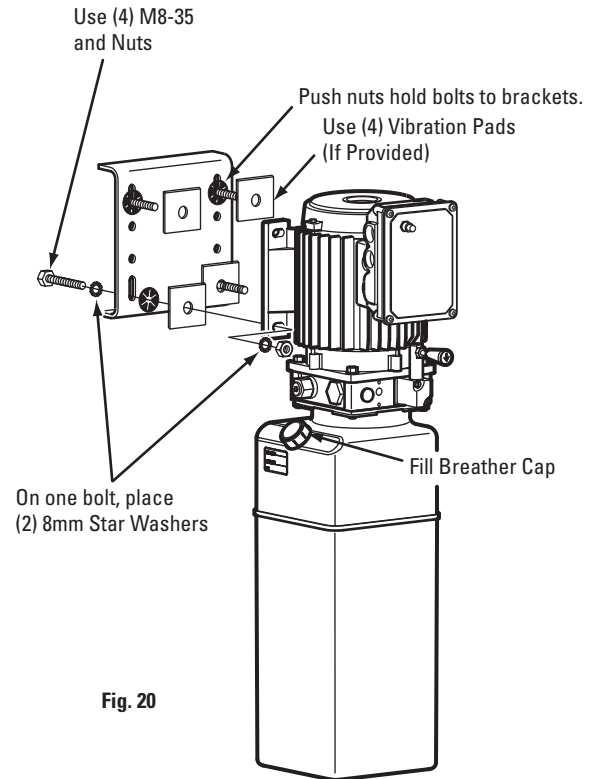
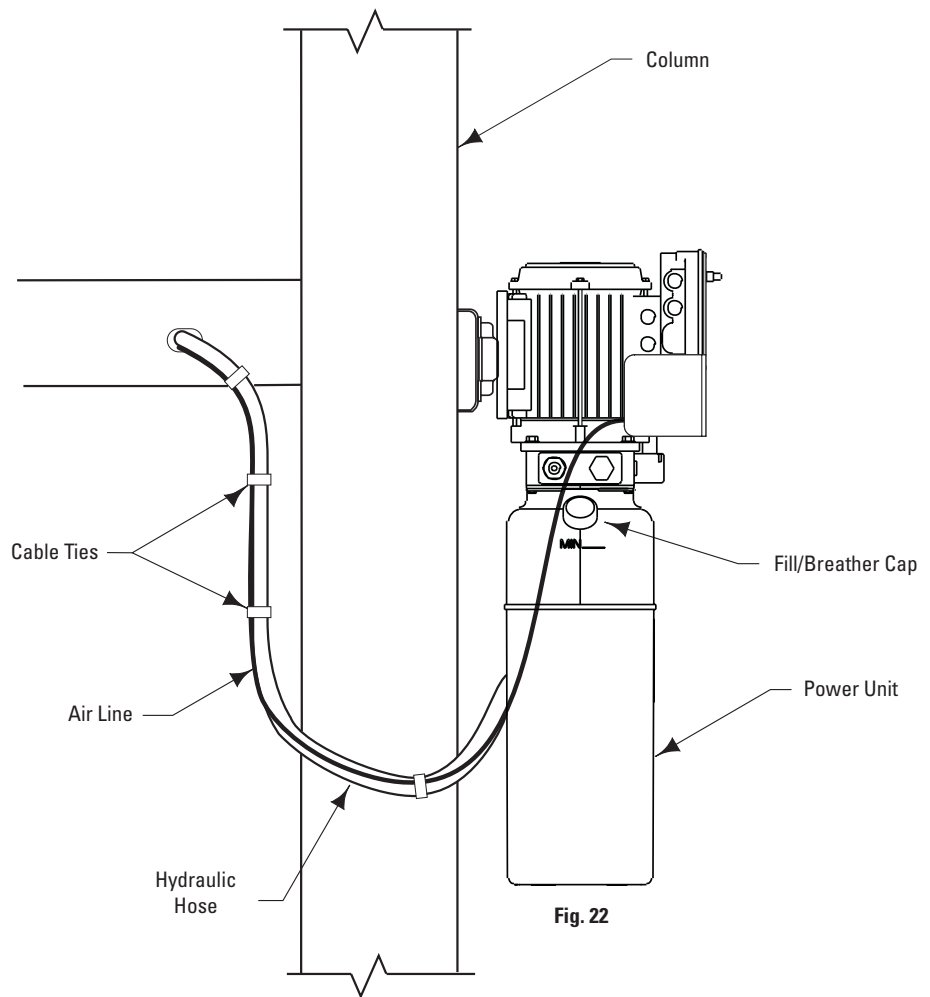

Fig. 20
Fig. 22
- A. Put (4) M8-35 hex bolts through holes in column bracket using push nuts to hold in place.
- B. Mount power unit, with motor up, to column bracket and install lock washers and nuts, Fig. 20. Run hydraulic hose from runway through slot in side of runway to power unit output port, Fig. 22. DO NOT use Teflon tape on hydraulic hose connections.
- D. Run hydraulic hose from runway through slot in side of runway to elbow, Fig. 22. DO NOT use Teflon tape on hydraulic hose connections. Clean elbow and hose. Inspect all threads for damage and hose ends to be sure they are crimped. Attach hose to elbow using Flared Fittings Tightening Procedure.
17. Oil Filling: Use Dexron III ATF, or hydraulic fluid that meets ISO 32 specifications. System capacity is fourteen (14) quarts. Use Dexron III ATF or equal. Fully lower lift. Remove fill/breather cap, Fig. 22. Fill to minimum fill line on tank, replace cap.
- 20. Bleeding:** Lift must be fully lowered before changing or adding fluid. Raise and lower lift six times. The cylinder is self-bleeding. After bleeding system, fluid level in power unit reservoir may be down. Add more ATF or ISO32 hydraulic oil, if necessary, following instructions in Step 16. To pressure test, run lift to full rise and run motor for approximately 5 seconds. Stop and check all fittings and hose connections. Tighten or reseal if required. Lower lift. If fill/breather cap, Fig. 22, is lost or broken, order replacement.